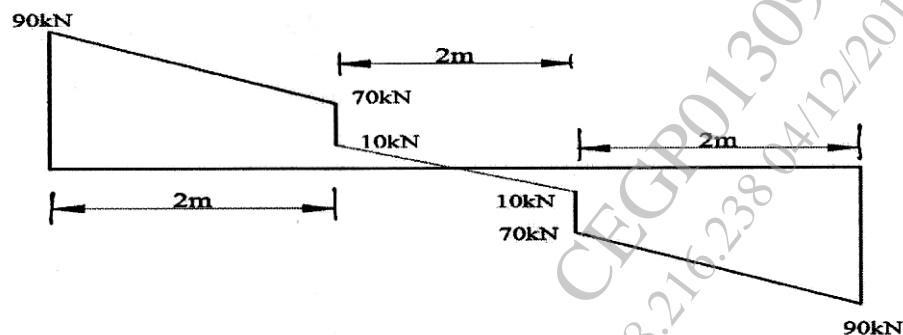

Fig. 6
- (b) The diagram shown in figure is the shear force diagram for a beam which rests on two supports. No couple is acting on a beam. Draw BMD & load diagram (Figure 6). [7]